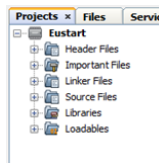

Figure 2: Screenshot the folder structure created for project
- vi. Created project will have the folder structure as in Figure 2.